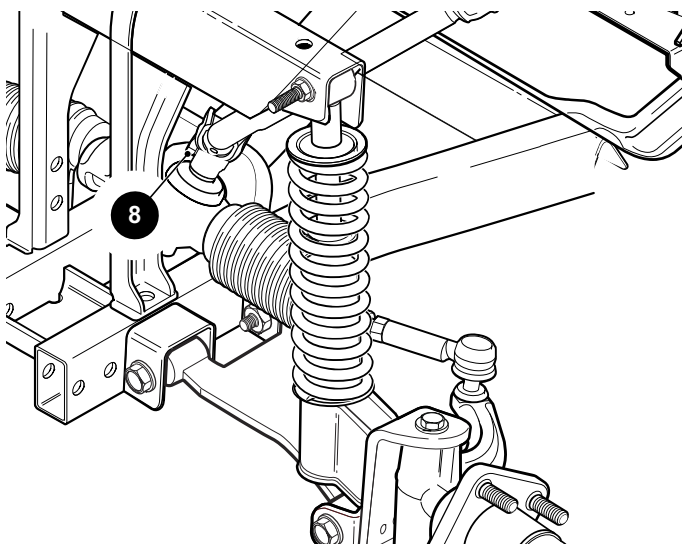

Figure 9 Lower Cross Bolt
2. Remove the lower cross bolt (8) from the yoke (Figure 9).
10. Apply a commercially available anti-seize compound to the splines of the steering box pinion before installing the yoke. Do not install the lower cross bolt (8) at this time (Figure 9).